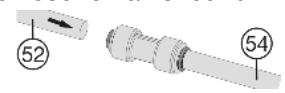

Fig. 24\*
► Connect the supplied extension hoses Fig. 24 (54) to the appliance hoses Fig. 24 (52): Slide the appliance hoses into the connectors as far as they will go (approx. 11/16" (17 mm)) (see 12 Installing the water filter\*). \*